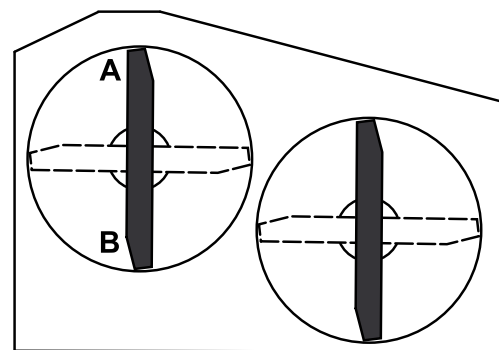

Figure 56
2. Position one blade front-to-rear. Measure at A and B locations from a level surface to the cutting edge of the blade tips (Figure 56).